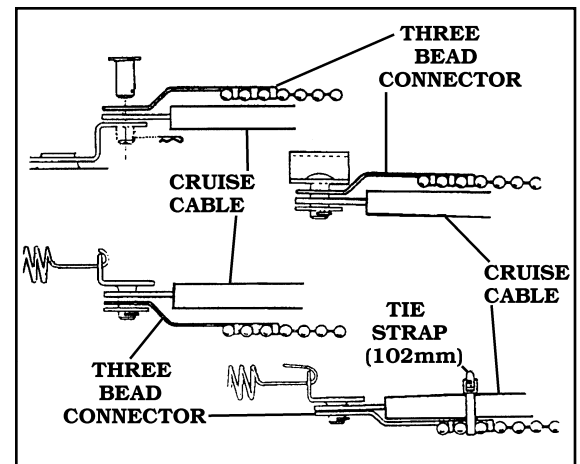

FIGURE 18
4. THE **THREE BEAD CONNECTOR** MAY NEED TO BE BENT SO THAT IT CLEARS THE THROTTLE CABLE. **FIGURE 18** USE THE **TIE STRAP (102MM)** TO HOLD THE **THREE BEAD CONNECTOR** TO THE SLEEVE OF THE THROTTLE CABLE. **FIGURE 18**